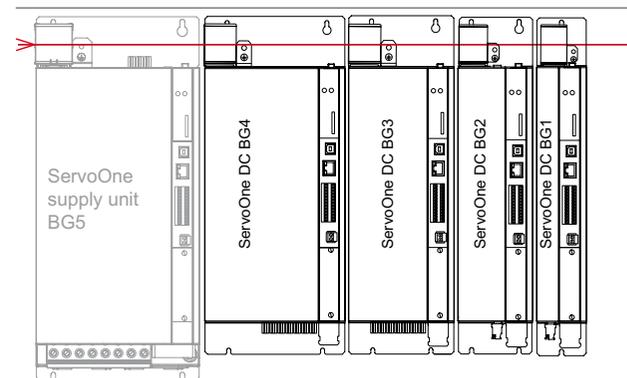

Figure 2.1 Row of air-cooled DC axis controllers adjacent to supply unit BG5 (example)
- A vertical offset of 18.5 mm must be allowed between the top fixing screws for devices of sizes BG1 to BG5 and devices of size BG6a (see figures 2.1 and 2.6).